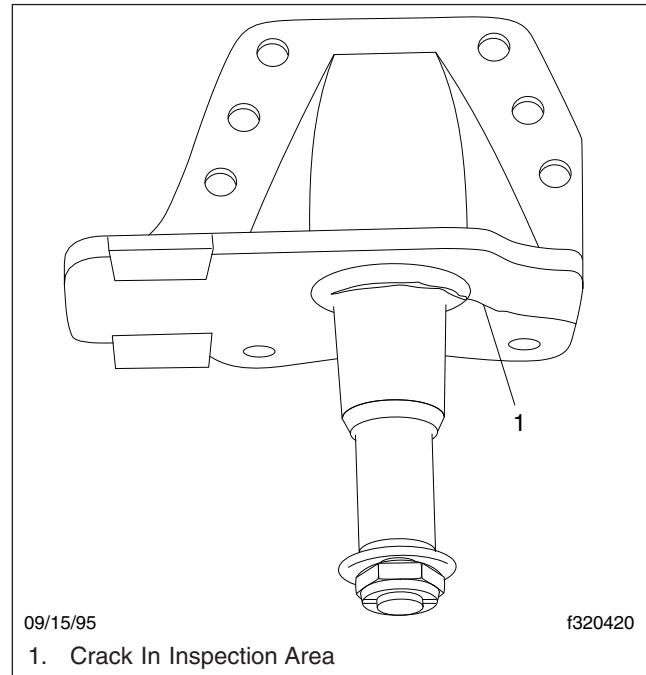

Fig. 10, Hendrickson RS Series Horizontal Mounting Flange
3. Inspect each frame hanger for evidence of cracks in the horizontal mounting flange adjacent to the vertical drive pin area. See **Fig. 10**.